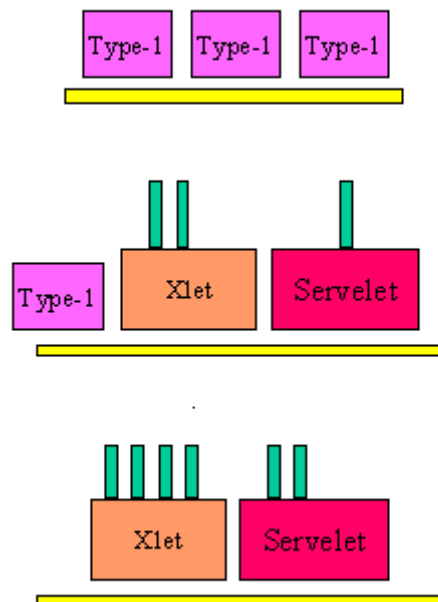

Fig. 2: Three Examples of Simultaneous Installation of Type 1 and 2 Applications
- **(MFP models only):** A maximum of three Type 1 applications can be installed on the MFP at one time, depending on the amount of virtual memory (VM) that the applications require. As mentioned above, the GW system regards the CVM Java core itself as a single Type 1 application. Therefore if one Xlet and one Servelet application are installed at the same time, the MFP will allow one additional Type 1 application to be installed (see Fig. 2 below).